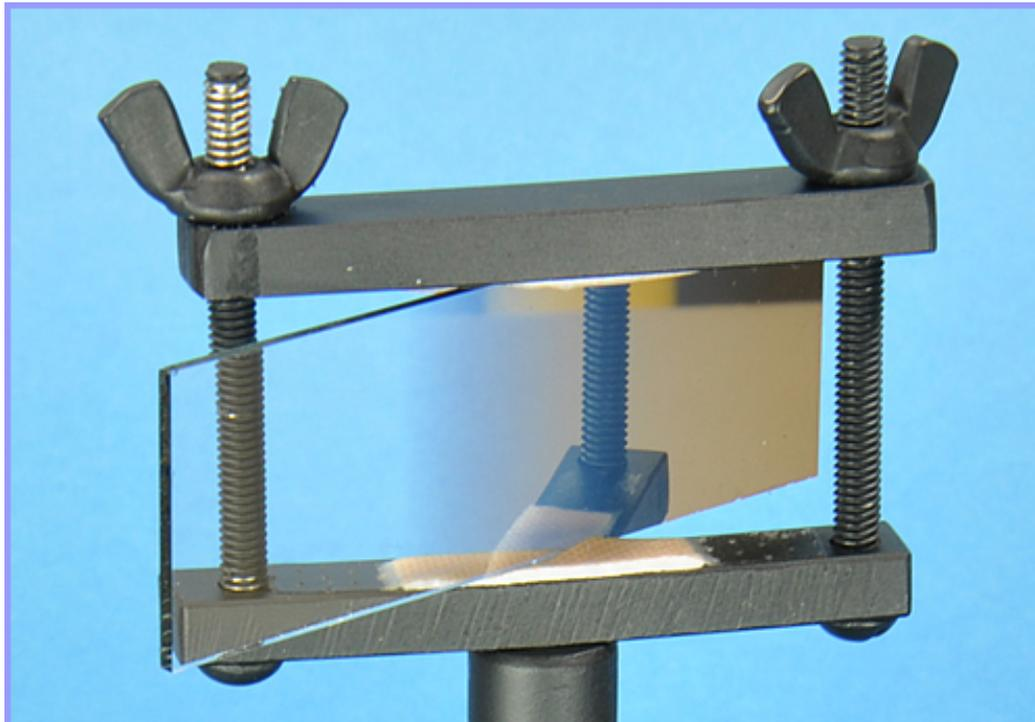

Figure 4b: Optic mount for linear-gradient variable beamsplitter.
1. You can use the optic mount shown in Figure 4b. Building this optic mount is covered under Optic Mounts. The optic mount with the beamsplitter is attached to a table mount and you adjust the beam ratios by sliding the table mount carefully on the optical table surface.
The homemade optic mount shown in Figure 11a can be used to mount your linear-gradient variable beamsplitter, small directional mirrors, and diverging lenses or microscope objectives (Figures 4b, 5, and 6a & 6c respectively). If you purchase a circular-gradient variable beamsplitter, a table mount will come with it or you can purchase one for it. Figure 11b shows the individual parts before painting.